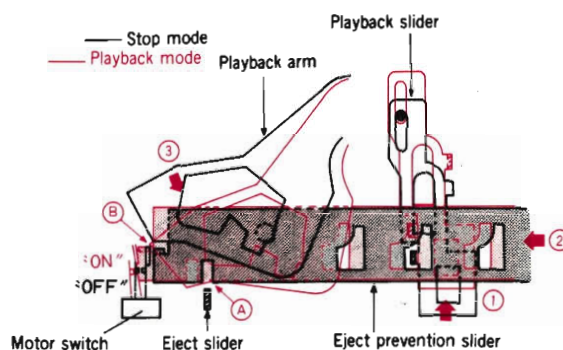

Fig. 17
7. Eject prevention mechanism (Fig. 17)